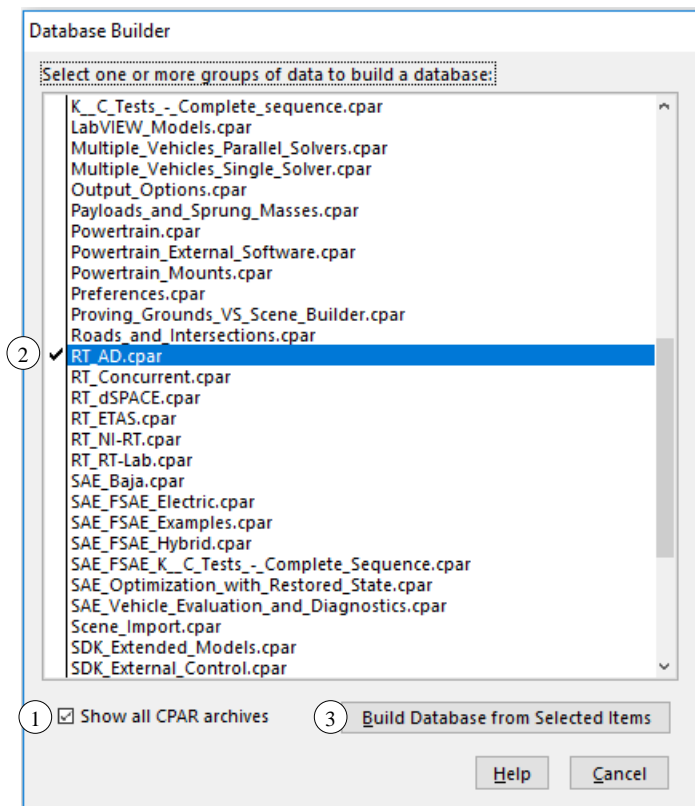

Figure 1. Database Builder
To build a new database, launch CarSim and select **Open Database Builder...** from the Select Recent Database window. In the Database Builder window (Figure 1), toggle on **Show all CPAR archives** ①. Select **RT_AD.cpar** ② along with any other data groups that you would like to include in the new database. Click **Build Database from Selected Items** ③. Select the folder where you would like to save the database and click **OK**.